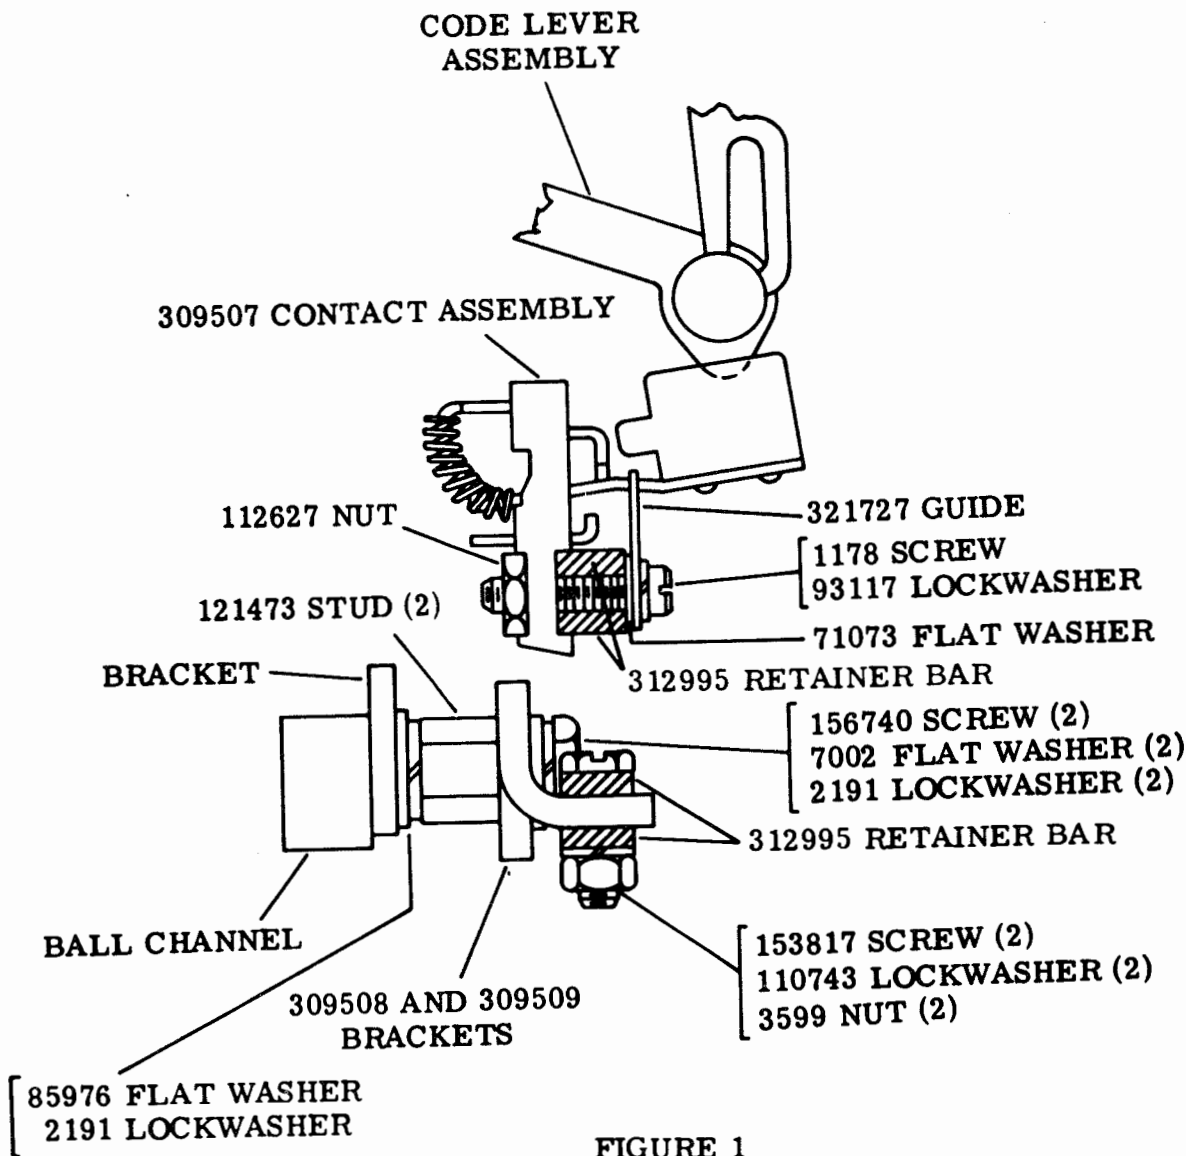

FIGURE 1
2. INSTALLATION (Figures 1, 2, and Bulletin 1187B)
3. ADJUSTMENTS (Figures 1 and 2) - Make the following adjustments.